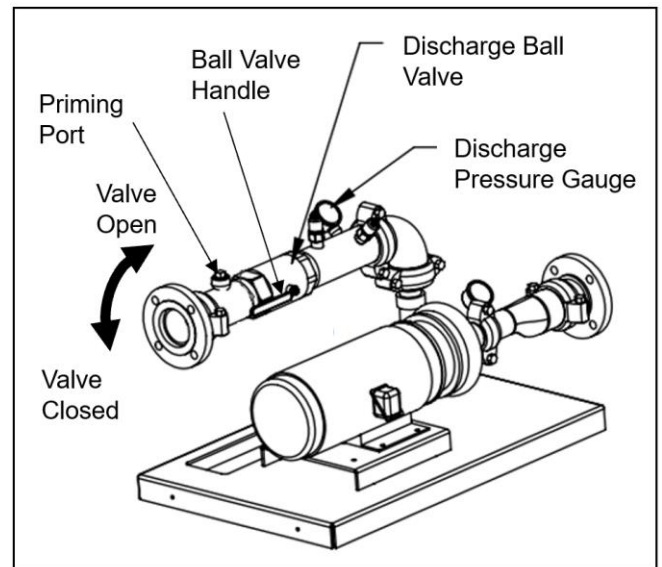

Figure 8-1. Pump Discharge System.
5. Open the Discharge Ball Valve (C, Figure 4-1) by placing the handle controlling the valve butterfly parallel to the discharge piping. See Figure 8-1.
6. Remove the plug from the Priming Port (B, Figure 4-1) on the discharge pipe. See Figure 8-1.